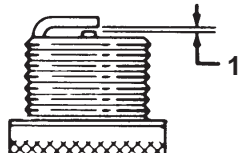

Figure 34
6. Set the gap between the electrodes on the spark plug at 0.030 in. (0.76 mm) as shown in Figure 34.